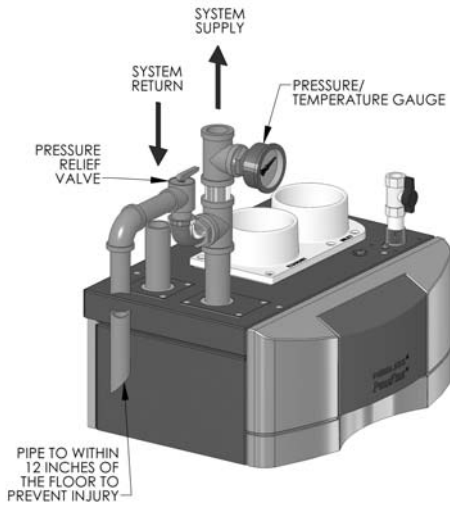

Figure 4.2: Relief Valve Installation – PF-50, PF-80, PF-110 & PF-140
1. *Pressure/Temperature Gauge:* A combination pressure/temperature gauge is provided with each PUREFIRE® boiler to be mounted in the piping from the boiler supply to the system as shown in Figure 4.2 & 4.3. Most local codes require this gauge.
- Pressure Relief Valve:* The boiler pressure relief valve is shipped separately for field installation. The valve is to be installed as shown in Figures 4.2 or